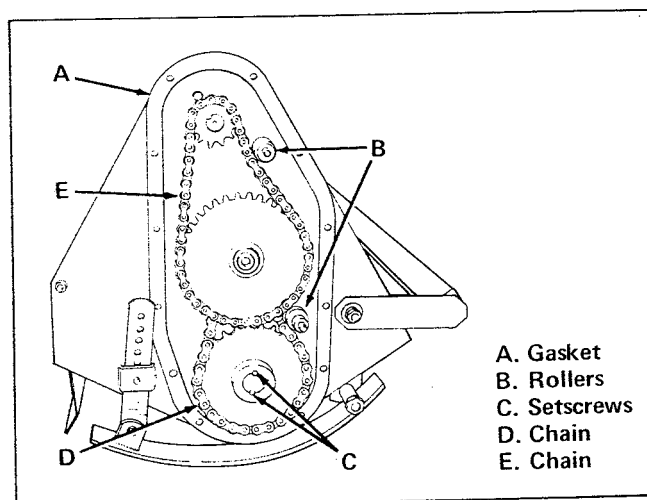

Figure 14. Chain Replacement
2. Remove 12 locknuts and 1 taptite capscrew that secure outer edge of chain cover. Then remove chain cover, taking care to prevent damage to gasket (item A, figure 14).